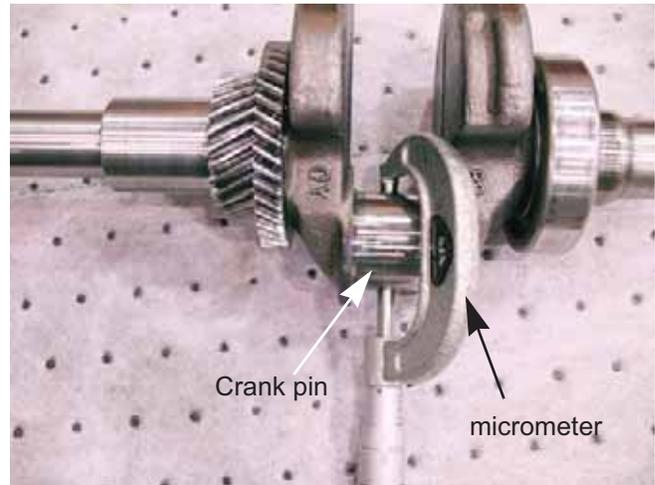

Figure 10.7
2. Measure the crank pin where the connecting rod attaches to the crankshaft using a vernier caliper or a micrometer. See Figure 10.7.